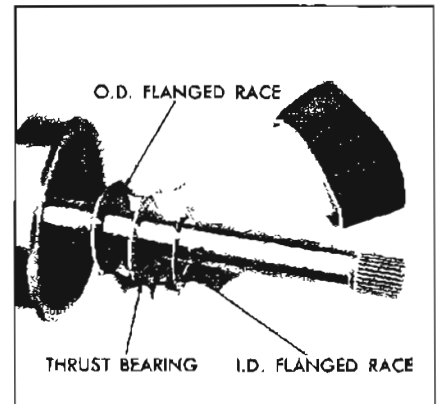

Figure 5-567
12. Remove the rear internal gear to sun gear thrust bearing and two (2) races. See Figure 5-567.